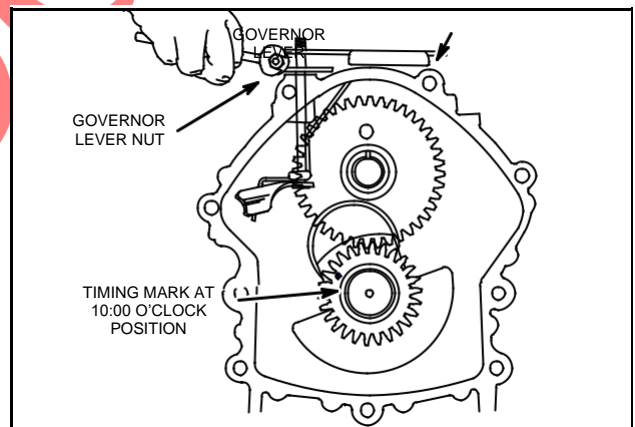

Fig. 12 – Remove Governor Lever, Plain Bearing
2. Loosen governor lever nut and remove governor lever, Fig. 12.